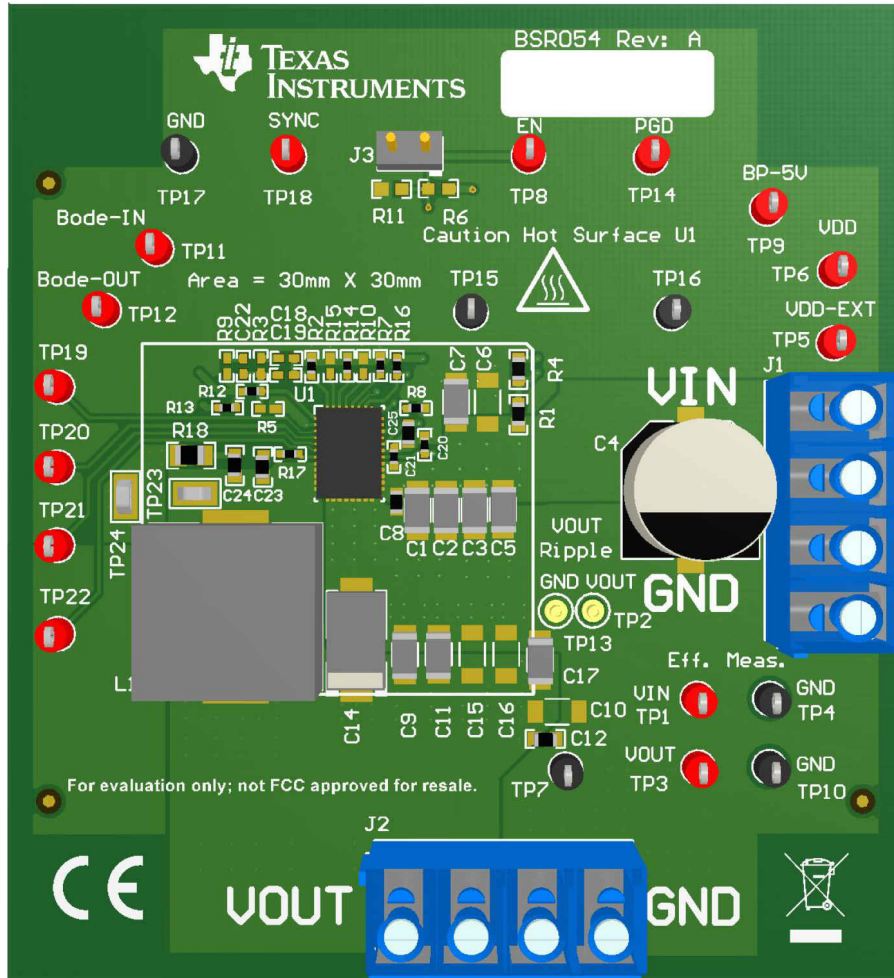

Figure 6-1. BSR054EVM Overview
| Figure 6-1. BSR054EVM Overview..... | 8 |
Multimeters: It is recommended to use two separate multimeters Figure 6-1. One meter is used to measure V_{IN} and one to measure V_{OUT} .
Output Load: A variable electronic load is recommended for testing Figure 6-1. It must be capable of 40 A at voltages as low as 0.6 V.
1. Connect V_{OUT} to J2 and V_{OUT_GND} to J2 Figure 6-1.
4. Connect V_{IN} to J1 and V_{IN_GND} to J1 Figure 6-1.